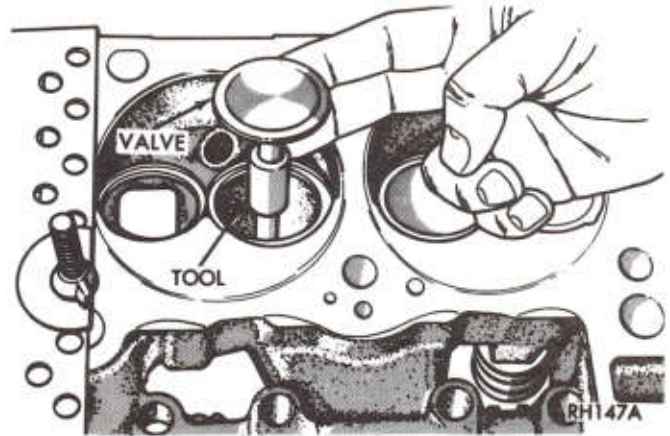

Fig. 13—Position Valve with Tool C-3973
- (3) Remove carbon and varnish deposits from inside of valve guides with a reliable guide cleaner.
- (4) Measure valve stem guide clearance as follows:
- (a) Install sleeve Tool C-3973 over valve stem (Fig. 13) and install valve. The special sleeve places the valve at the correct height for checking with a dial indicator.